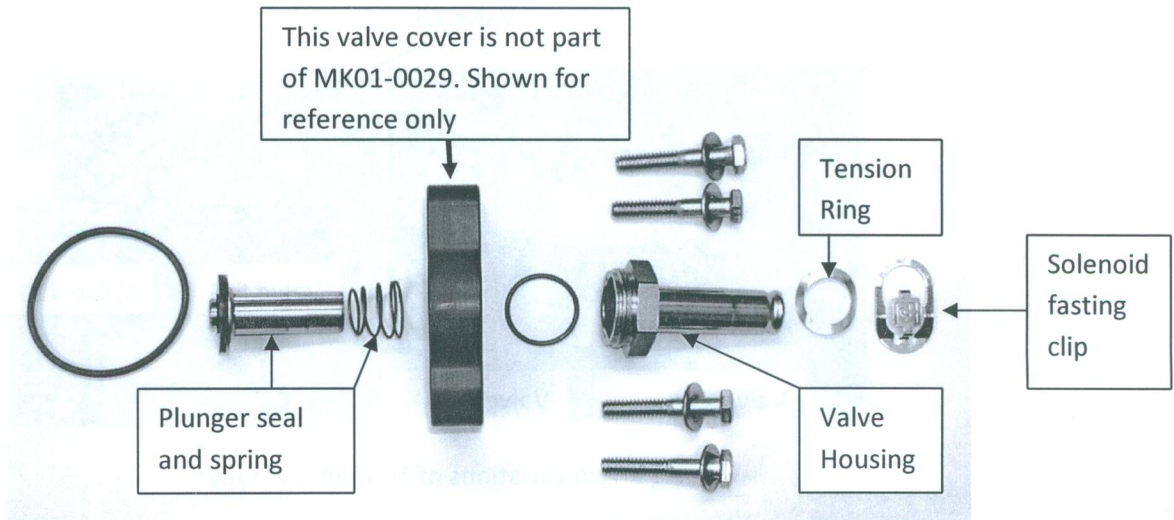

Fig 5 3/4" Valve Rebuild kit
8. Place the spring onto the plunger seal. The spring should be orientated so the small end is in contact with the seal end of the plunger seal (refer to fig 5). Insert the plunger into the housing.